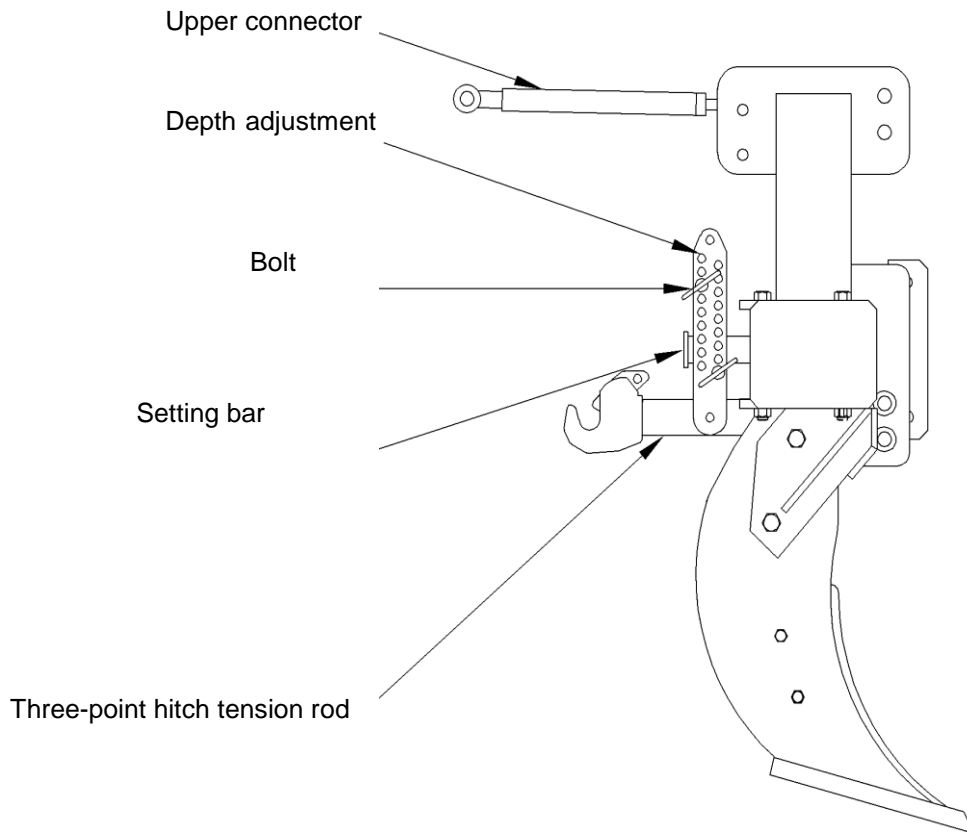

Figure 2. MGP subsoiler three-point hitch components
- adjust the distance between the rod hooks and the ground so that they are located below the rod pins of the co-operating machine, by means of the pins, placing these above the depth-setting bar (Figure 2)
The subsoiler's proper operating depth is determined by adjusting the position of the bolts in the openings of the adjustable support wheels (Figure 1). The depth relative to the co-operating machine is determined by means of the depth adjustment bolts by inserting them into the appropriate opening below the depth-setting bar (Figure 2).